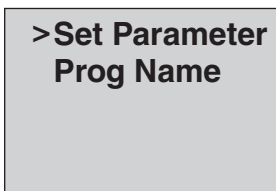

Fig. 3
3. Using the up/down arrow key ▲ or ▼, move the (>) cursor to 'Program' and press **OK** to confirm (See figure 3).